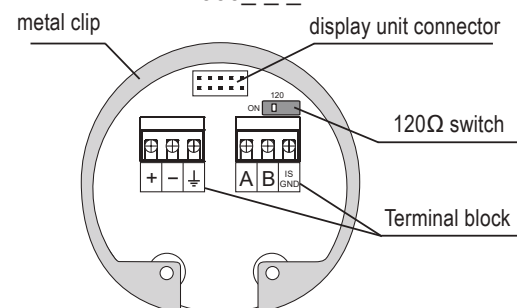

Fig. 19: Inside view of screw terminals of the level meter with Modbus UPS 1000 \_ \_ \_ - M
2. Now it is shown the item "TEACHING". By pressing **OK** set the value "LEVEL DISTANCE" (distance to the level) – supposed distance from the face of the sensor to the medium level. If the distance to the level is not precisely known, enter a value lower (in the tolerance field as shown in Fig. 19).